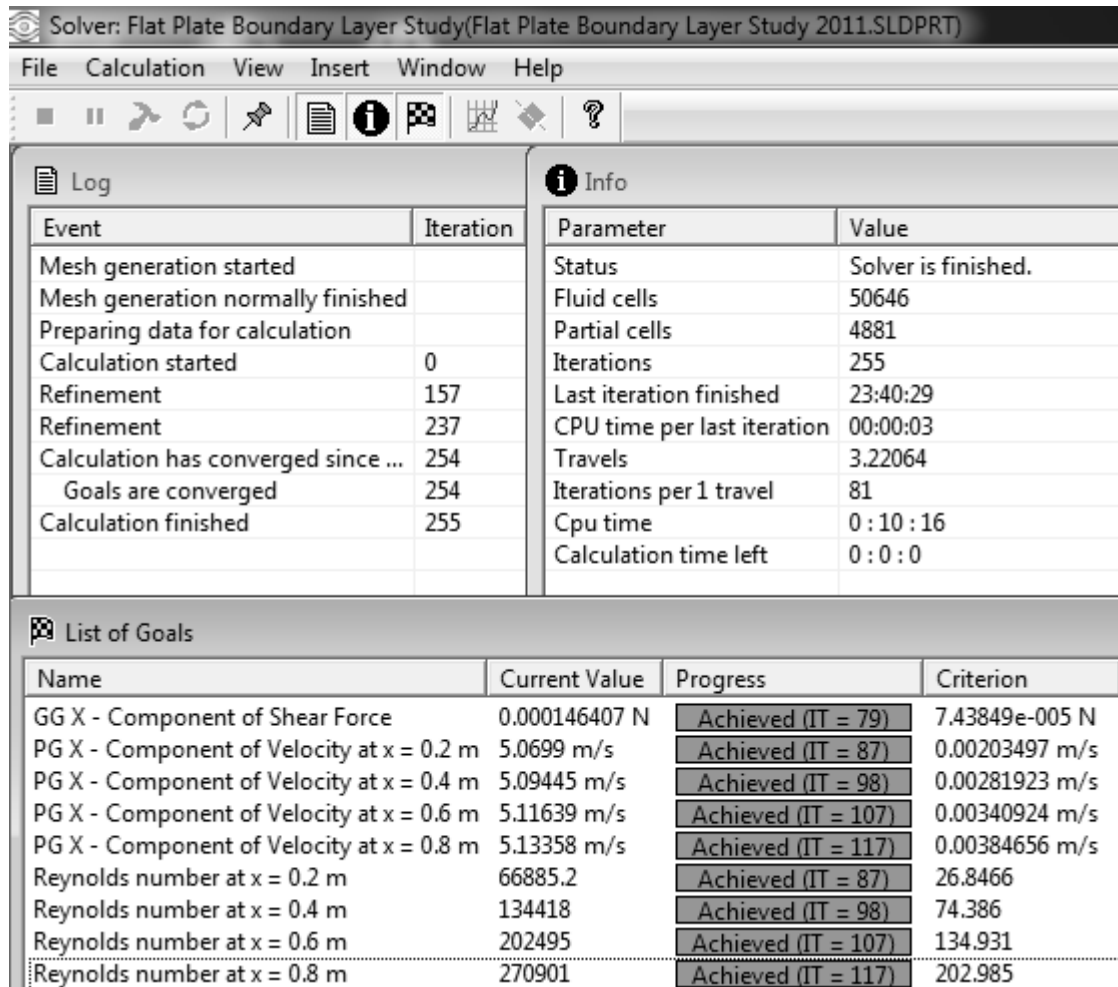
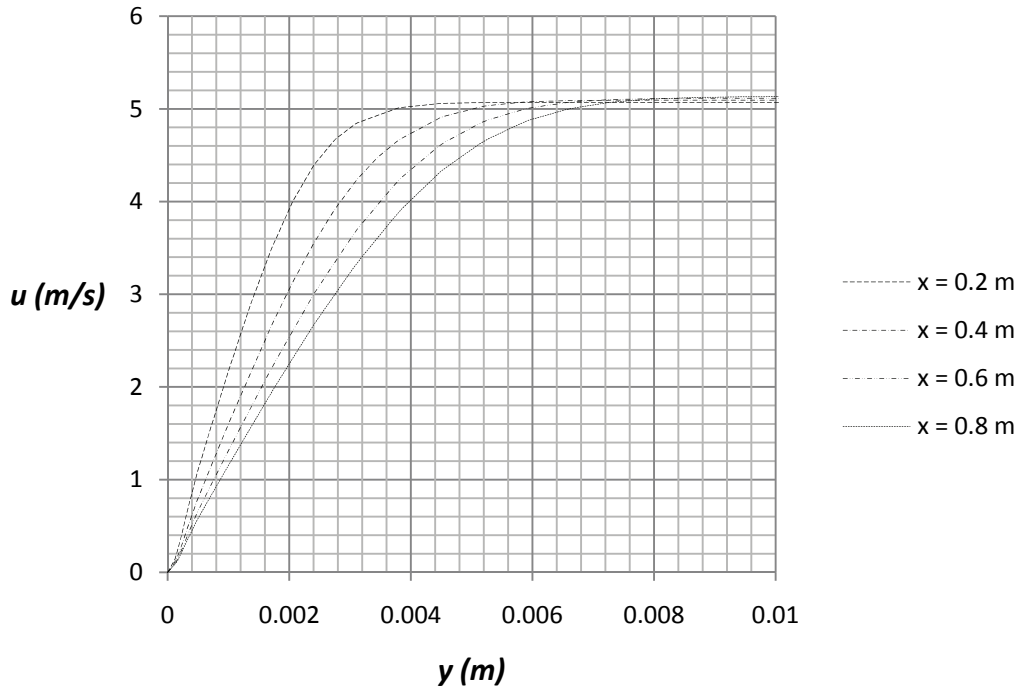
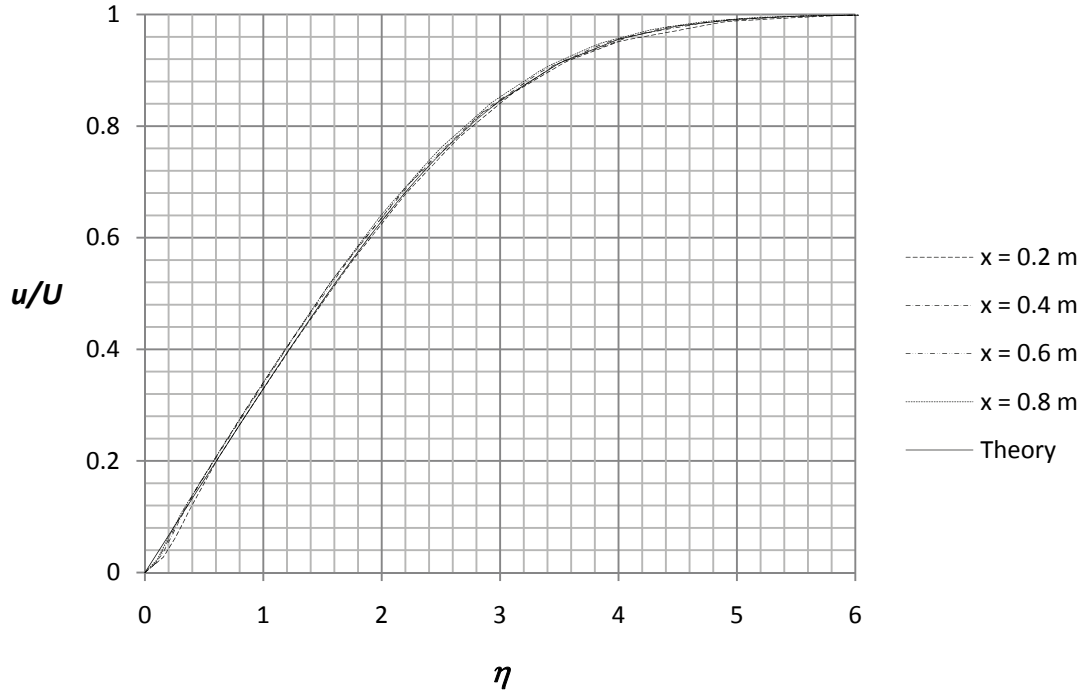

Figure 2.22c) Solver window
Figure 2.24c) Boundary layer velocity profiles on a flat plate at different streamwise positions
Figure 2.25a) Velocity profiles in comparison with the theoretical Blasius profile (full line)
24. Place the file “xy-plot figure 2.24c)” into the **Local Disk (C:)/Program Files /SolidWorks Corp/SolidWorks Flow Simulation/lang/english/template/XY-plots** folder to make it available in the **Template** list. Click on the  **FeatureManager design tree**. Click on the sketch **x = 0.2, 0.4, 0.6, 0.8 m**. Click on the  **Flow Simulation analysis tree** tab. Right click **XY Plot** and select **Insert...** Check the **X-Component of Velocity** box. Open the **Resolution** portion of the **XY Plot** window and slide the **Geometry Resolution** as far as it goes to the right. Click on the **Evenly Distribute Output Points** button and increase the number of points to **500**. Open the **Options** portion and check the **Display boundary layer** box. Select the template “xy-plot figure 2.24c)” from the drop down menu. Click OK  to exit the **XY Plot** window. An Excel file will open with a graph of the velocity in the boundary layer at different streamwise positions, see figure 2.24c). Rename the inserted xy-plot in the **Flow Simulation analysis tree** to **Laminar Velocity Boundary Layer**.
26. Place the file “xy-plot figure 2.25a)” into the **Local Disk (C:)/Program Files /SolidWorks Corp/SolidWorks Flow Simulation/lang/english/template/XY-plots** folder to make it available in the **Template** list. Repeat step 24 and select the new template for the XY-plot. Rename the xy-plot to **Comparison with Blasius Profile**.
We see in figure 2.25a) that all profiles at different streamwise positions collapse on the same Blasius curve when we use the boundary layer similarity coordinate.
From the data of figure 2.24c) we can see that the thickness of the laminar boundary layer is close to 3.96 mm at $Re_x = 66,885$ corresponding to $x = 0.2$ m. The free stream velocity at $x = 0.2$ m is $U = 5.070$ m/s, see figure 2.22c) for list of goals in solver window, and 99% of this value is $U_\delta = 5.019$ m/s. The boundary layer thickness $\delta = 3.96$ mm from Flow Simulation was found by
finding the y position corresponding to the U_δ velocity. This value for δ at $x = 0.2$ m and corresponding values further downstream at different x locations are available in the Plot Data for Figure 2.25a). The different values of the boundary layer thickness can be compared with values obtained using equation (3). In table 2.1 are comparisons shown between boundary layer thickness from Flow Simulation and theory corresponding to the four different Reynolds numbers shown in figure 2.24c). The Reynolds number varies between $Re_x = 66,885$ at $x = 0.2$ m and $Re_x = 270,901$ at $x = 0.8$ m.
The average friction coefficient over the whole plate C_f is not a function of the surface roughness for the laminar boundary layer but a function of the Reynolds number based on the length of the plate Re_L , see figure E3 in Exercise 8 at the end of this chapter. This friction coefficient can be determined in Flow Simulation by using the final value of the global goal, the X-component of the Shear Force F_f , see figure 2.22c) and dividing it by the dynamic pressure times the area A in the X-Z plane of the computational domain related to the flat plate.